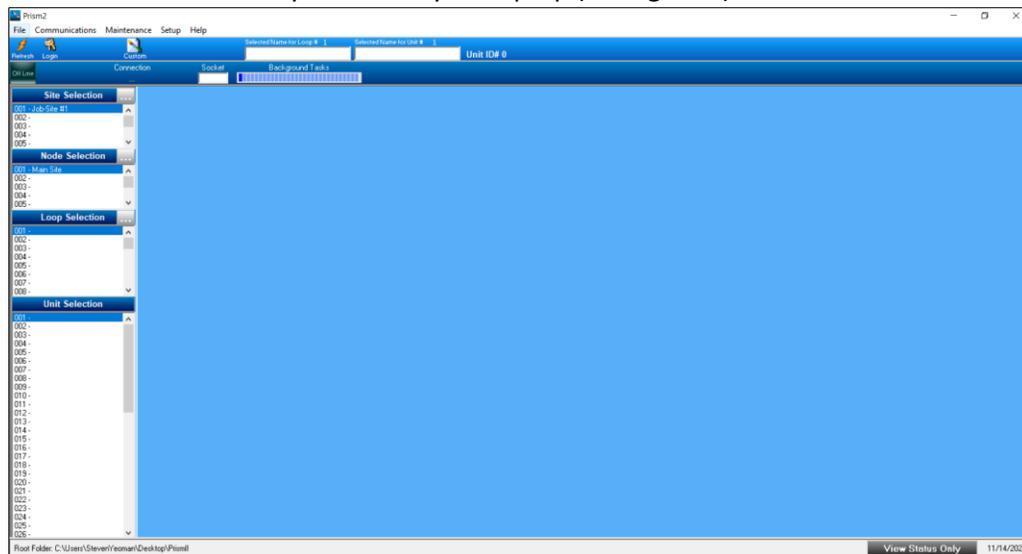

Figure 7: Prism Initial Launch Screen
2. Prism2 software will automatically launch on your laptop (see figure 7).